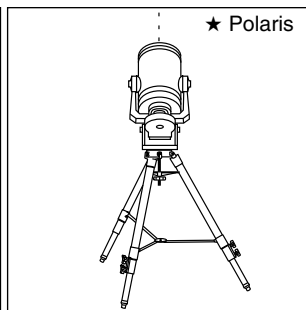

Fig. 23: Mount too far West.
- If the star drifts North (or up), the telescope's polar axis is pointing too far West (Fig. 23).